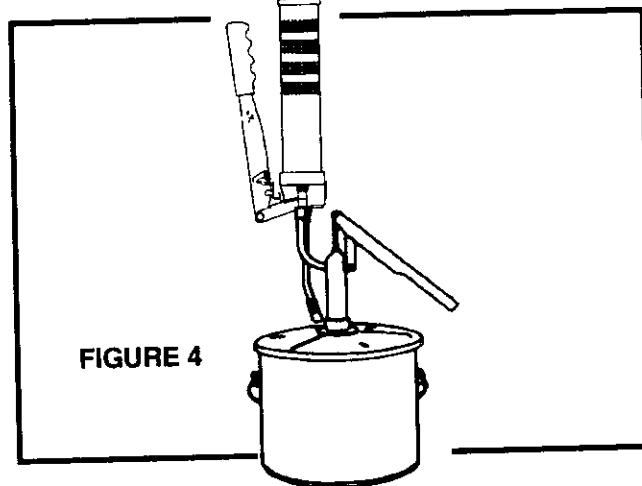

FIGURE 4
C. BULK LOADING (USING LOADER PUMP ONLY): (Figure 4)
1. Wipe loader fitting B-322610 (Figure 4) clean of any material.